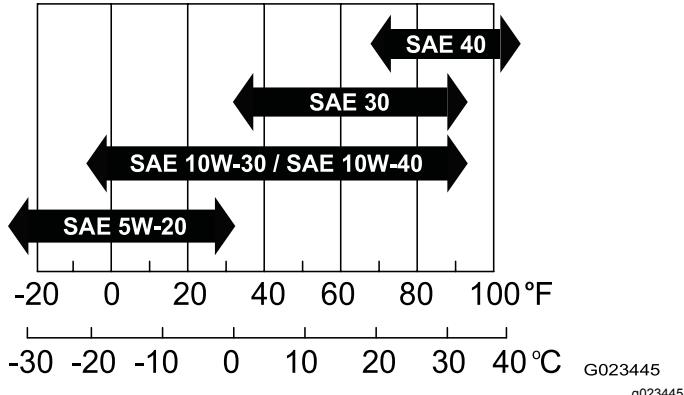

Figure 13
- **Viscosity:** SAE 30; refer to the following chart for other viscosities (Figure 13):